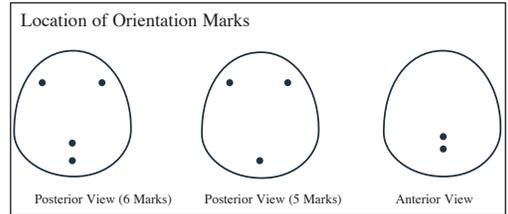

FIGURE 1
- **NATRELLE® 410** Re-sterilizable Sizers contain Soft Touch gel and include orientation marks. (see Figure 1)